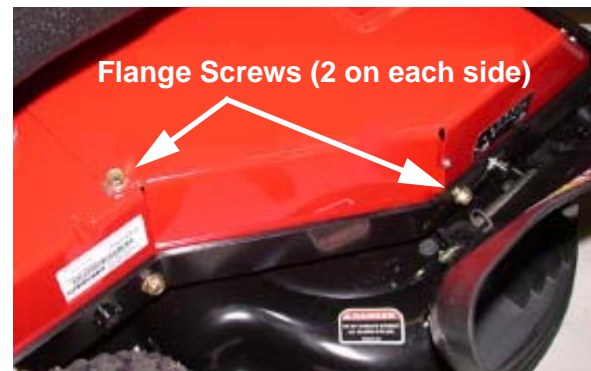

FIGURE 2
4. Using a 1/2 inch socket, remove the four flange screws securing the Belt Guard cover to the mower support frame. See Figure 2.